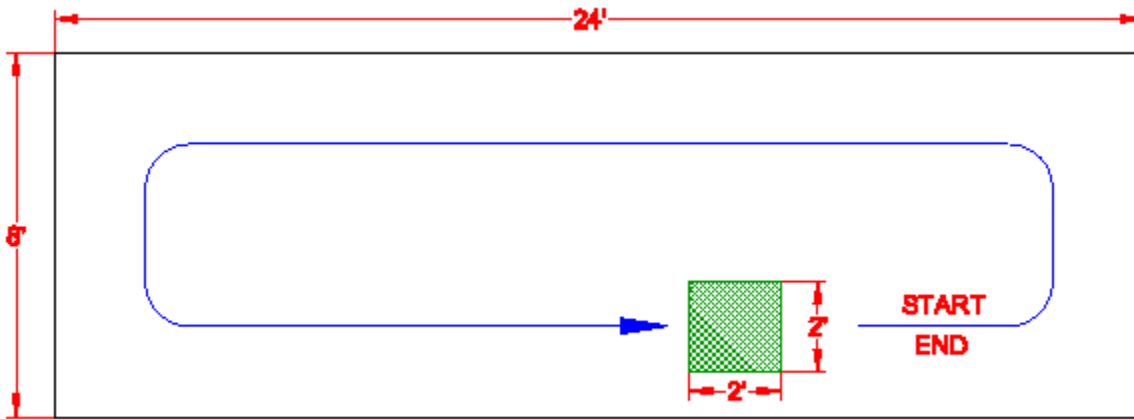

Figure 1 – Test Floor and Sample Area Configuration
- The test floor consisted of commercial white vinyl tiles prepared using a commercial floor finish. Each test sample area was 2 feet [0.61 m] square. See figure 1.